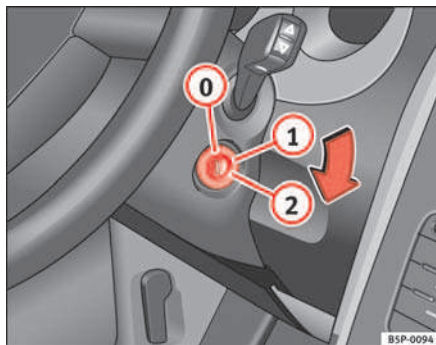

Fig. 130 Ignition key positions
In the position ⇒ fig. 130 the ignition and the engine are OFF and the steering may be locked.
- Turn the ignition key to position ⇒ page 159, fig. 130 ①. The indication lamp  will light for engine pre-heating.
- When the warning lamp goes out, turn the key to position ② to start the engine. Do not press the accelerator.
- Turn the ignition key to position ⇒ page 159, fig. 130 ①.